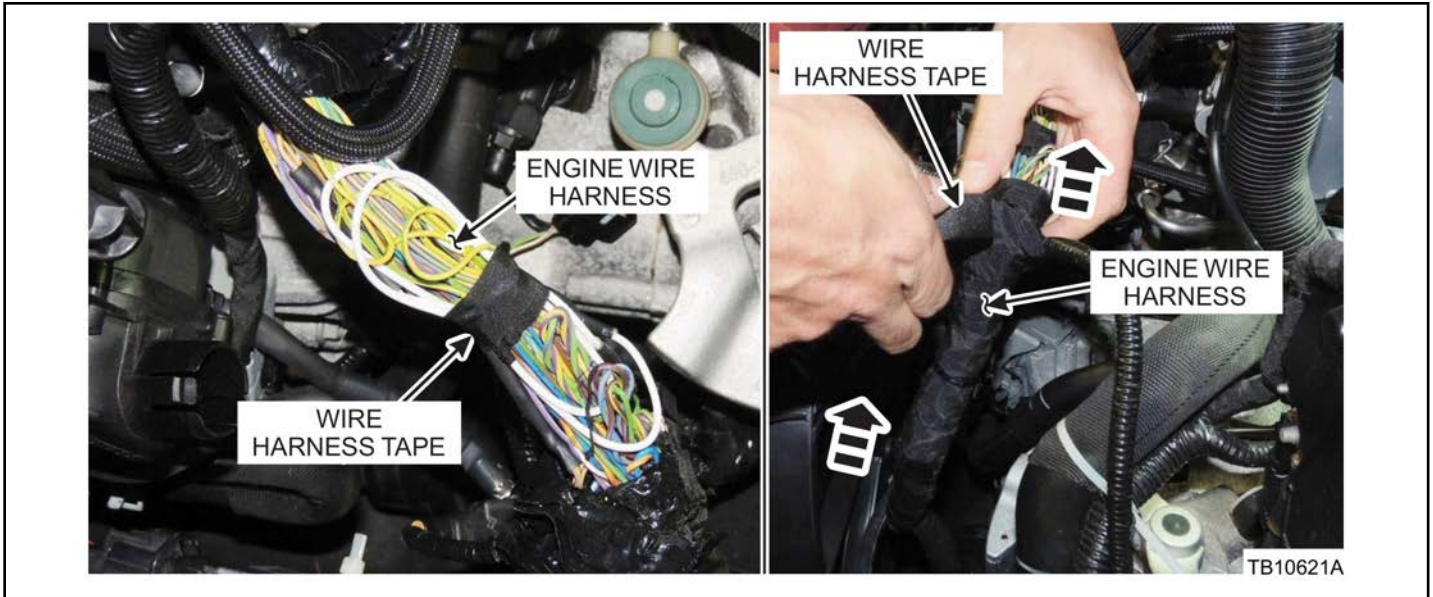

Figure 3 - Article 16-0161
- b. Position two (2) lengths of ES-1 double wall heat shrink tubing onto each wire.
15. Bundle the wires as shown and apply wire harness tape to the harness, starting from the bottom of the previously cut harness tape and working upward until all exposed wires are covered. (Figure 3)